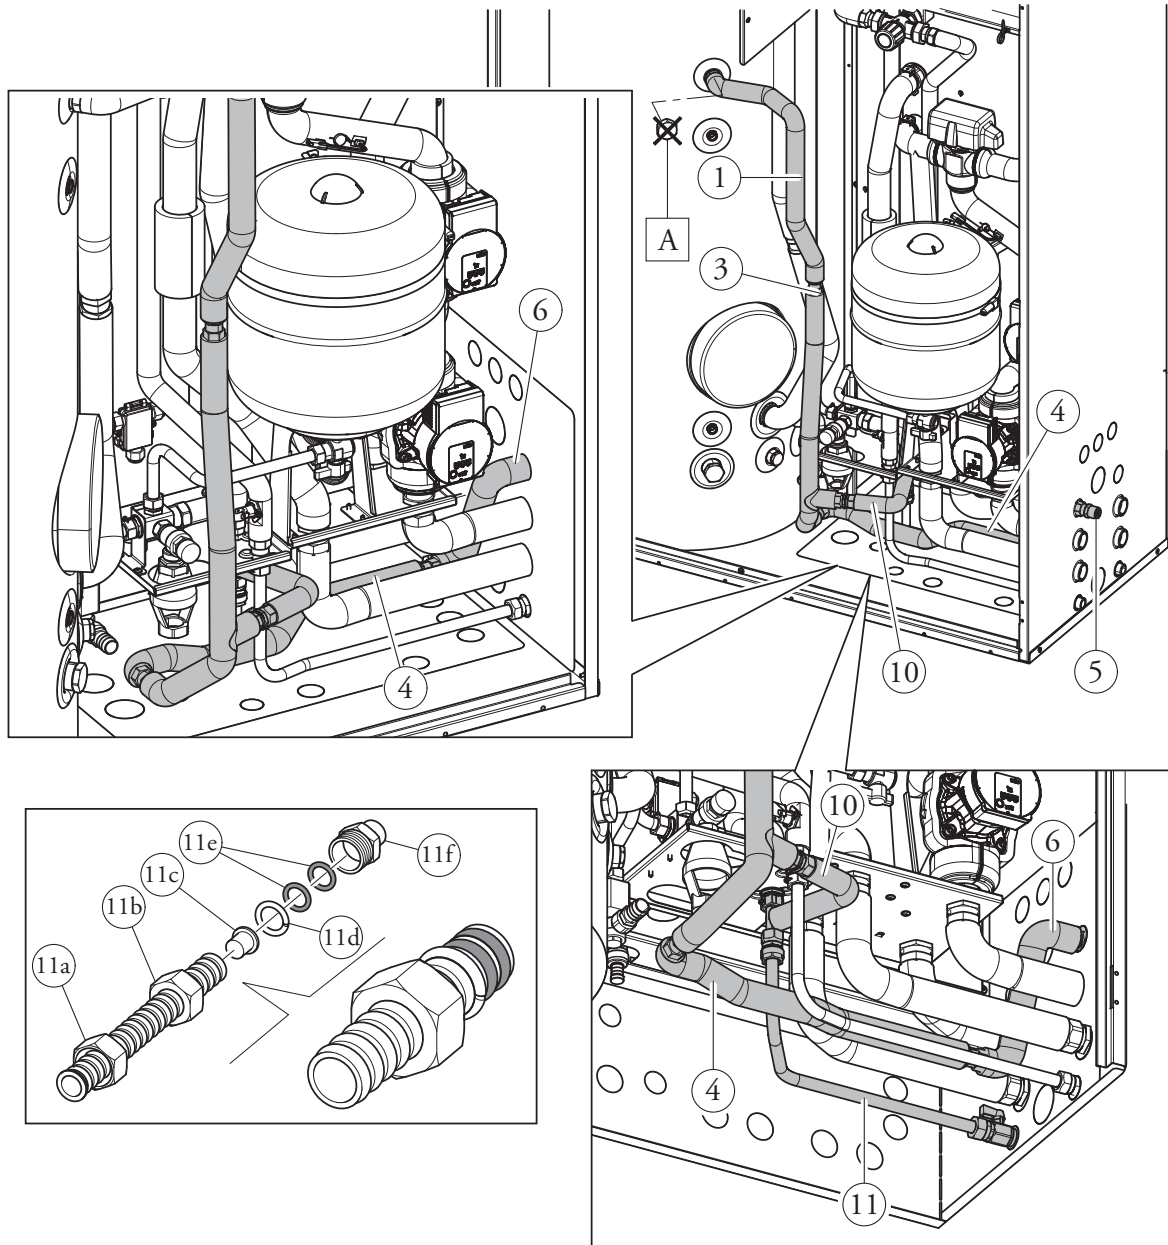

Fig. 2
- Connect the insulated recirculation pipe (4), the insulated flexible pipe (6) and the nipples (5) after having interposed the special flat seals (2) supplied with the kit, to the DHW recirculation system required for the side connection (Fig. 2).
- Connect the nipples (9), the non return valve (8) and the flexible pipe (11) to the insulated T-shaped pipe (10) in sequence after having interposed the special flat seals (2) supplied with the kit (Fig. 2).
- N.B.: flexible pipe installation (11):** insert the nut (11a) from the flange side. Temporarily connect the pipe (11). Shape the path of the flexible pipe, taking the measurements and lengths required, then if necessary cut the pipe using a pipe cutter to adapt the length as required. Insert the nut (11b), the plug (11c) at the mouth of the pipe and insert the brass ring (11d) in sequence, placing it on the 3rd groove and the 2 O-rings (11e) placing them on the 1st and 2nd groove. After placing the O-rings, remove the protective plug (11c). Join the brass fitting (11f) to the nut (11b).
- The recirculation pipe side connection can be performed in one of the holes provided (Fig. 2).